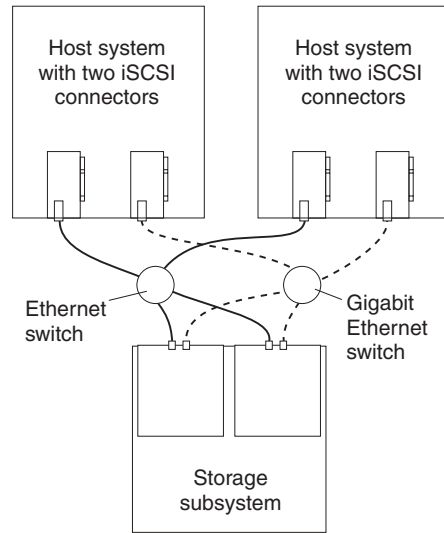

Figure 61. Example of a multiple-host, multiple-port configuration
- Multiple-host, multiple-port configuration, as shown in Figure 61 on page 87
Figure 61 on page 87 shows a multiple-host, multiple-port configuration. For cluster configurations, the following illustration is an example of a multiple-host, multiple-port, and redundant path and controller configuration. You can replace the two gigabit Ethernet switches in the illustration with one large gigabit Ethernet switch that has the required number of ports. Virtual local area network (VLAN) can also be used to isolate the two iSCSI networks, instead of a single switch.